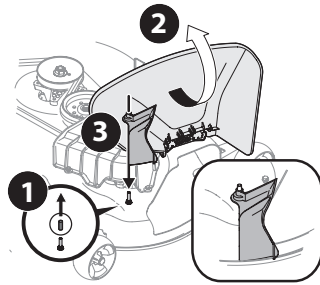

Figure 24
2. Remove the deck pin rubber protective cap (1) in Figure 24.
3. Raise the chute deflector (2 in Figure 24) on the deck and hold it while you install the chute adapter (731-10133) (3) onto the deck as shown in Figure 24.